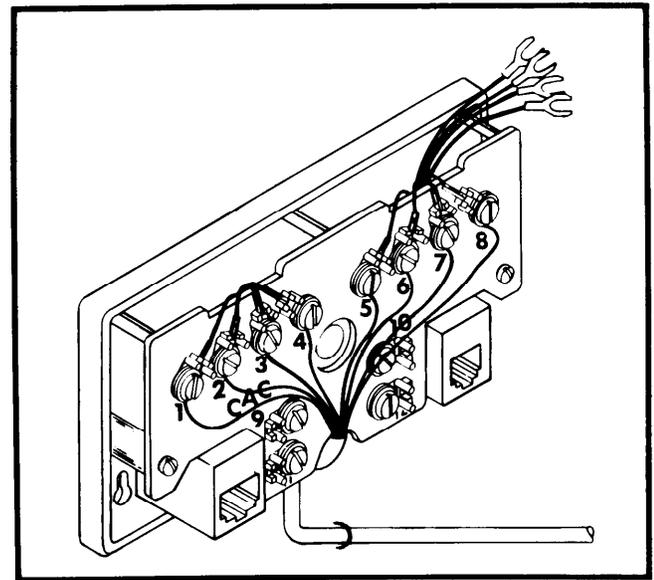

FIGURE 8
- (b) Place the jacketed portion of the station wires within the entry slot provided at the bottom of the 635 base. Staple the jacket to the wall, and dress the individual conductors within the base as needed. See Fig. 8.